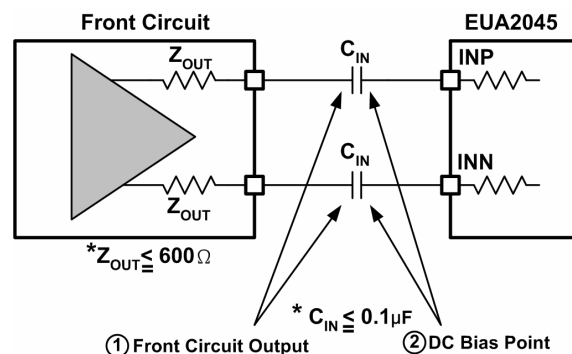

Figure 32. Circuit Diagram
Please start up the former source circuit first to stabilize the DC bias point (See Figure 32-②) and then cancel the shut-down state of EUA2045. The time (T_{DLY}) required to stabilize the voltage can be found by the formula (See (1) shown below). And, signal variation in the former source circuit should be a value lower than PVDD.